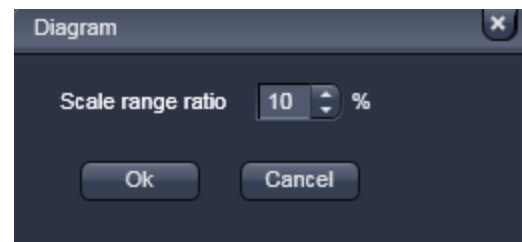

Fig. 381 Scaling menu
- Select the line **Scaling** to open the **Diagram** scaling window (Fig. 381). Enter the required percentage value (from 1 to 100) for the scaling and click on **OK** to rescale, **Cancel** to keep the old value. The scaling of the G(t) axis will be adjusted.